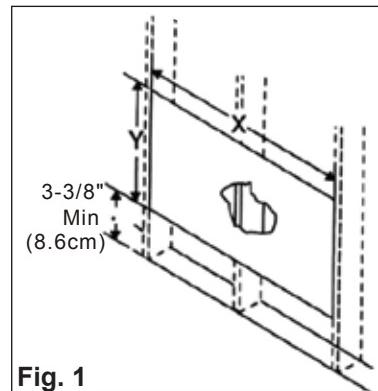

Fig. 1
1. Check window opening size-The mounting parts furnished with this air conditioner are made to install in a wooden sill, double-hung window. The standard parts are for window dimensions listed above. Open sash to a minimum of 19 inches (483 mm). See Fig. 1.
1. Pull down front grille and remove filter. (See Fig. 1.)
3. Measure between inside edges of every other stud as shown in Fig. 1.
*Carefully measure and cut an opening with the following dimensions depending on your model. (See Fig. 1 and 2.)